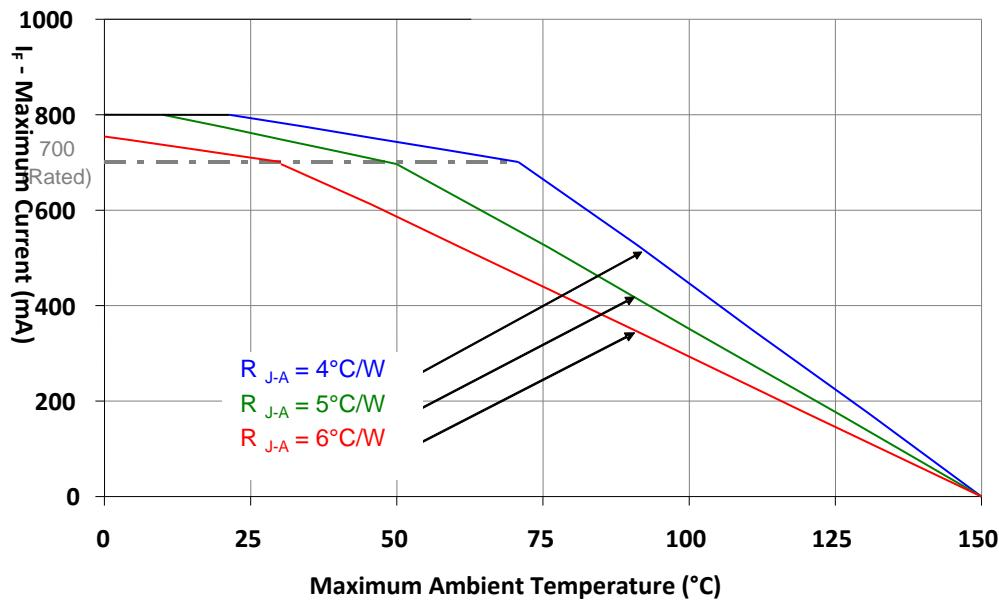

Figure 10: Maximum forward current vs. ambient temperature based on $T_{J(\text{MAX})} = 150^\circ\text{C}$.
1. Maximum DC forward current (per die) is determined by the overall thermal resistance and ambient temperature. Follow the curves in Figure 10 for current de-rating.
Notes for Figure 10: